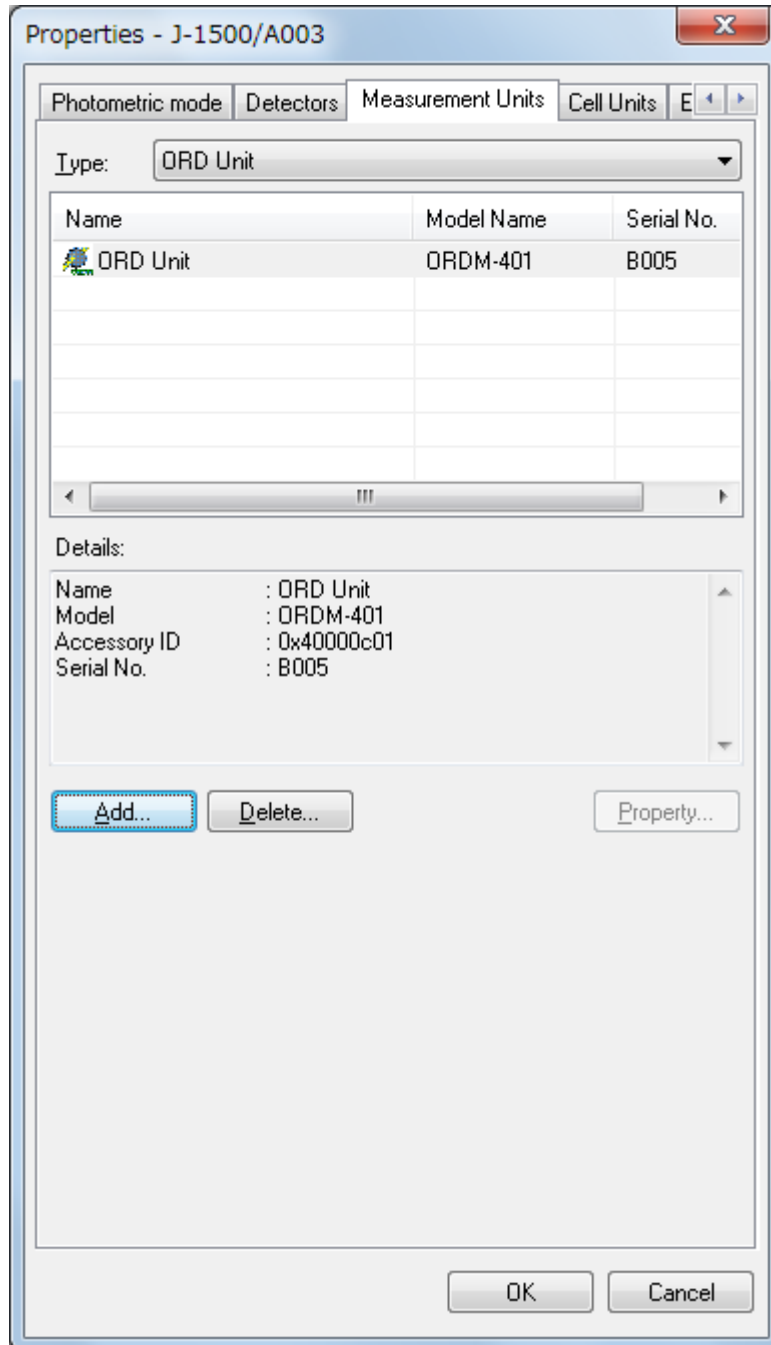

Figure 3.10 [Measurement Units] tab in [Properties] dialog box
- (1) Click the [Measurement Units] tab in Fig. 3.10. Select the type of measurement unit from the [Type] drop-down list.